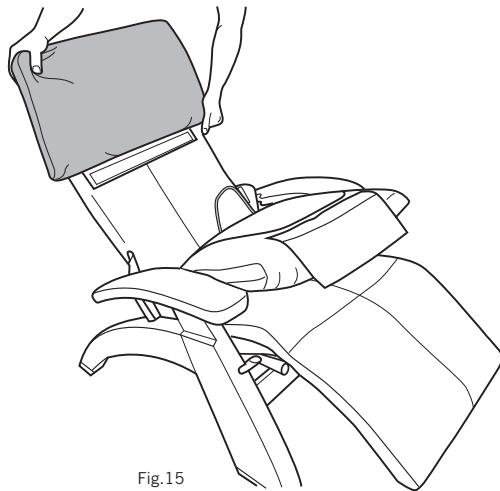

Fig.15
2. Slide the headrest pad over the head rest frame (Fig.15).